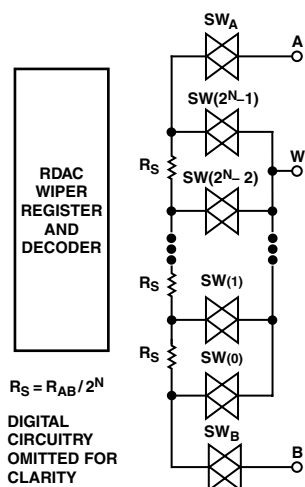

Figure 9. Equivalent RDAC Structure (Patent Pending)
The patent pending RDAC contains multiple strings of equal resistor segments, with an array of analog switches, that act as the wiper connection. The number of positions is the resolution of the device. The AD5231 has 1024 connection points allowing it to provide better than 0.1% set-ability resolution. Figure 9 shows an equivalent structure of the connections between the three terminals of the RDAC. The SW_A and SW_B will always be ON, while one of the switches SW(0) to SW(2^N-1) will be ON one at a time depending on the resistance position decoded from the data bits. Since the switch is not ideal, there is a 15 Ω wiper resistance, R_W. Wiper resistance is a function of supply voltage and temperature. The lower the supply voltage, or the higher the temperature, the higher the resulting wiper resistance. Users should be aware of the wiper resistance dynamics if accurate prediction of the output resistance is needed.
part. For V_{DD} = 5 V, the wiper first connection starts at the B terminal for data 000_H. R_{WB}(0) is 15 Ω because of the wiper resistance and it is independent of the nominal resistance. The second connection is the first tap point where R_{WB}(1) becomes 9.7 Ω + 15 Ω = 24.7 Ω for data 001_H. The third connection is the next tap point representing R_{WB}(2) = 19.4 + 15 = 34.4 Ω for data 002_H and so on. Each LSB data value increase moves the wiper up the resistor ladder until the last tap point is reached at R_{WB}(1023) = 10005 Ω. See Figure 9 for a simplified diagram of the equivalent RDAC circuit. When R_{WB} is used, the A-terminal can be left floating or tied to the wiper.